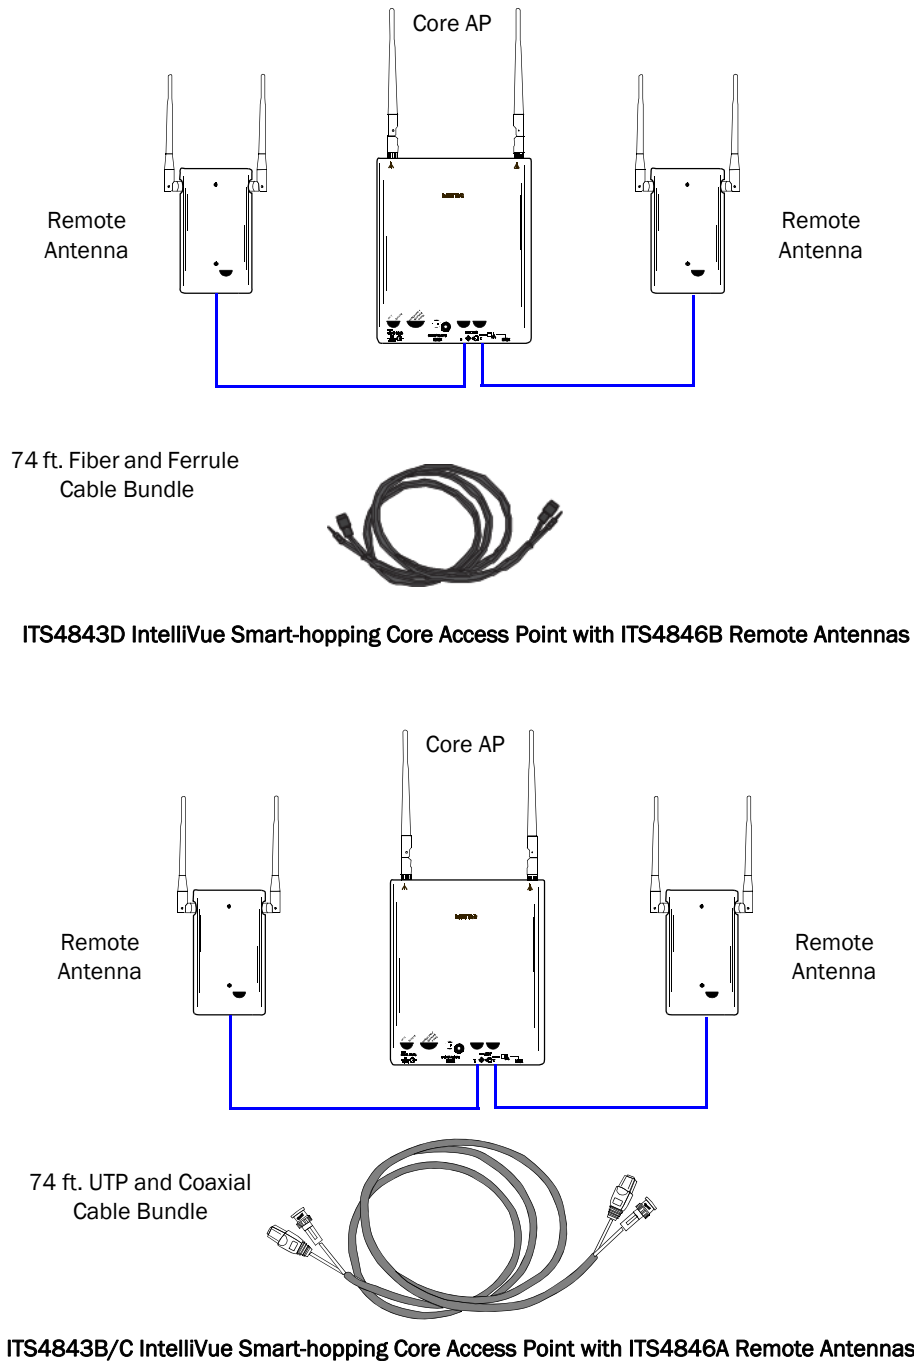

Figure 1-2: IntelliVue Smart-hopping Core Access Point
The IntelliVue Smart-hopping Core Access Point (AP), Model ITS4843B, ITS4843C, and ITS4843D (Radiohead) (Figure 1-2), provides an air-link to transmit and receive data between IntelliVue Smart-hopping IntelliVue Patient Monitors and the Philips IntelliVue Information Center via the IntelliVue Smart-hopping infrastructure.